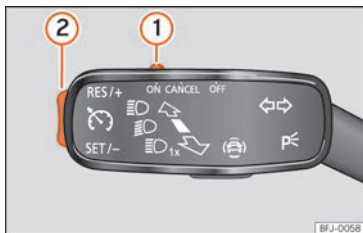

Fig. 252 On the turn signal lever: controls for operating the GRA.
- Move the control »» Fig. 252 ① to **ON**.
- Press button »» Fig. 252 ② in area **SET/-**.
- Move the control »» Fig. 252 ① to **CANCEL** or step on the brake.
- Press button »» Fig. 252 ② in area **RES/+**.
While the GRA is set, the stored speed can be adjusted with button »» Fig. 252 ②:
- To increase in increments of 1 km/h (1 mph) briefly press button »» Fig. 252 ② in the area **RES/+**.
- To increase the speed without interruption, keep button »» Fig. 252 ② pressed down in the area **RES/+**.
- To reduce in increments of 1 km/h (1 mph) briefly press button »» Fig. 252 ② in the area **SET/-**.
- To reduce the speed without interruption, keep button »» Fig. 252 ② pressed down in the area **SET/-**.
- Move control »» Fig. 252 ① to **OFF**.